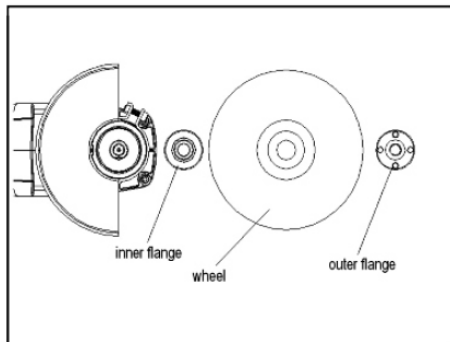

Fig3
1. Mount the inner flange onto the spindle. Fit the wheel/disc on the inner flange and screw the outer flange onto the spindle (Fig 3).